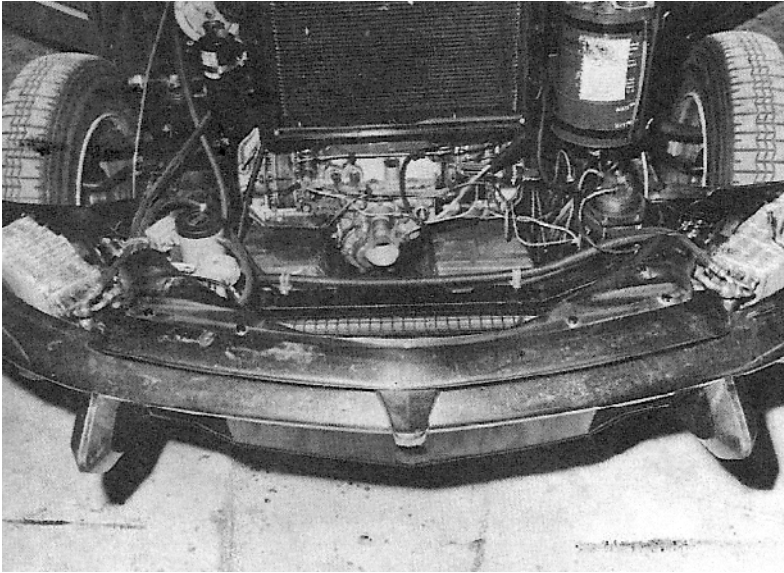

FIG 11
5. Clamp freon hoses to chassis cross member using (4) 1" hose clamps see FIG: 11 & 12